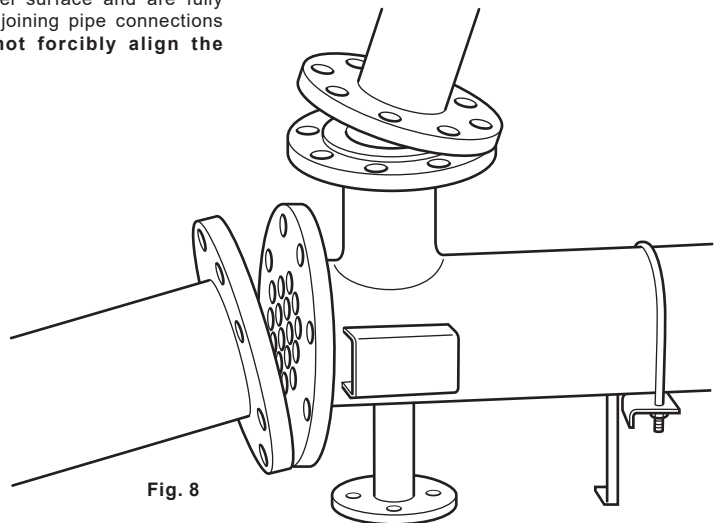

Fig. 8
4.7 Ensure that heat exchangers are suitably situated on a level surface and are fully aligned to any adjoining pipe connections (Figure 8). **Do not forcibly align the connections!**